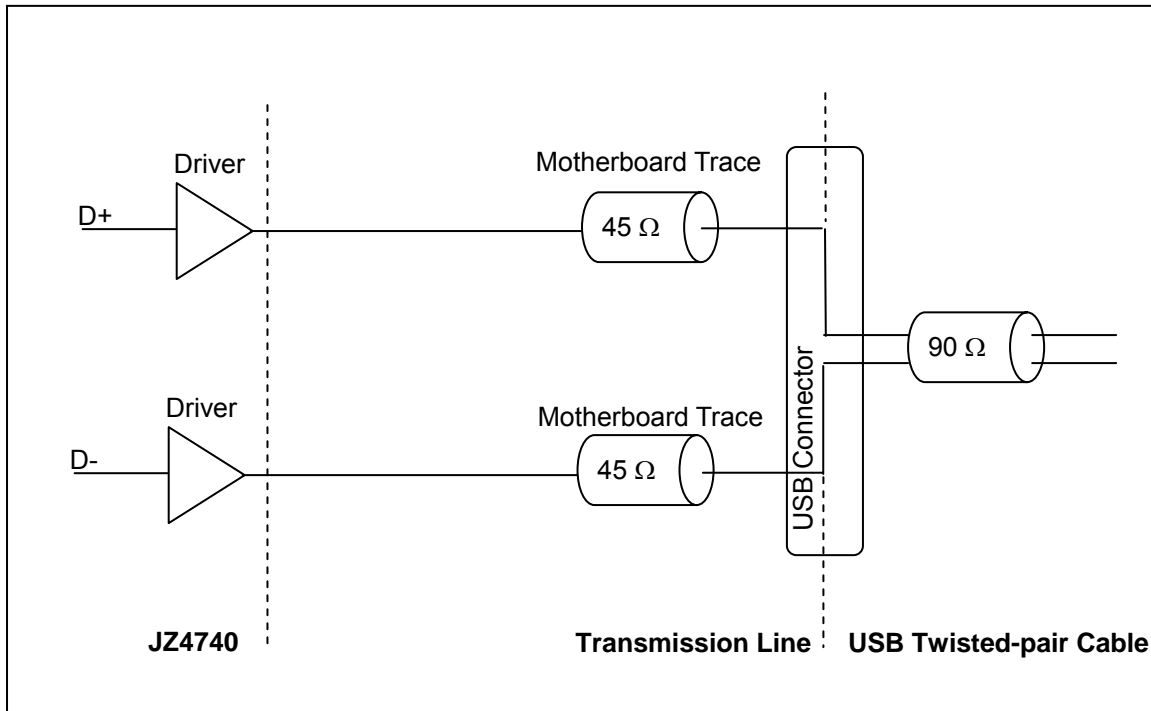

Figure 5-2 Recommend USB Device Schematic
- The trace impedance for the D_{\pm} signals should be $45\ \Omega$ (to ground) for each USB signal $D+$ or $D-$. This may be achieved with 9-mil-wide traces on the motherboard based on the stack-up recommended in Figure 5-2. The impedance is $90\ \Omega$ between the differential signal pairs $D+$ and $D-$, to match the $90\ \Omega$ USB twisted-pair cable impedance. Note that the twisted-pair characteristic impedance of $90\ \Omega$ is the series impedance of both wires, which results in an individual wire presenting $45\ \Omega$ impedance. The trace impedance can be controlled by carefully selecting the trace width, trace distance from power or ground planes, and physical proximity of nearby traces.